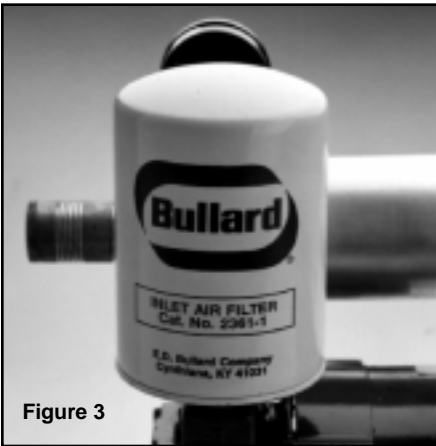

Figure 3
- Make sure the pump's inlet filter is located in a clean, uncontaminated location where breathable air is assured at all times (see Figure 3).